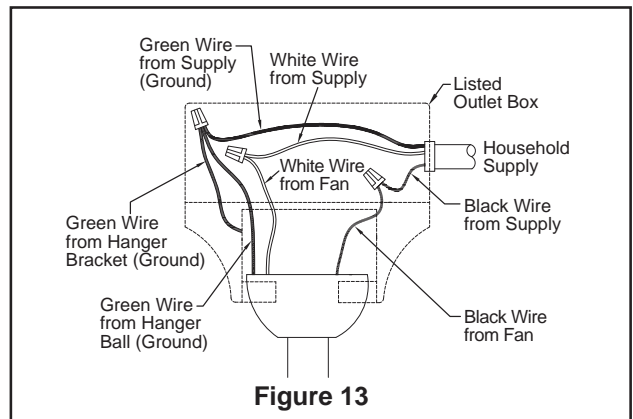

Figure 13
2. After connections have been made, turn leads upward and carefully push leads into the outlet box, with the white and green leads to one side of the box and the black leads toward the other side. The wires should be spread apart with the grounded conductor and the equipment-grounding conductor on one side of the outlet box and the ungrounded conductor on the other side of the outlet box. (Figure 13)